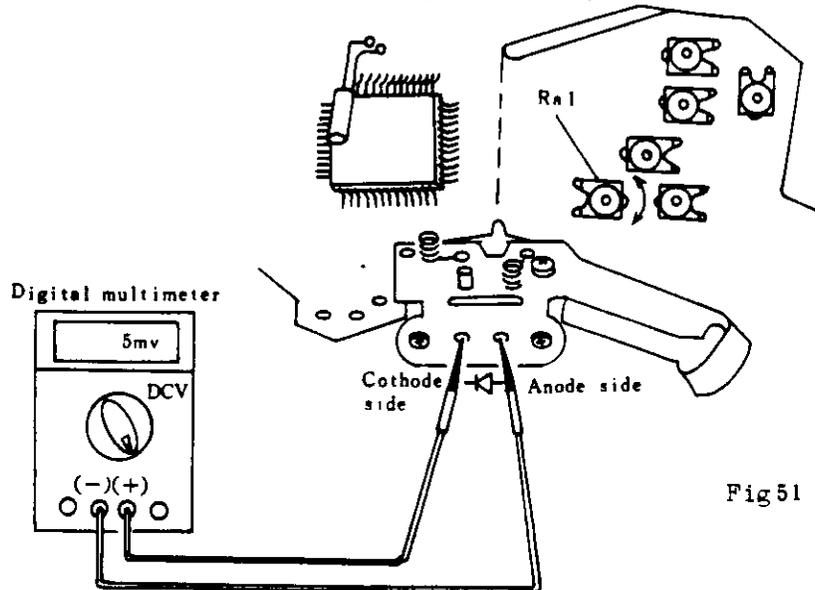

Fig51
- 2 Connect (-) of digital multimeter to Cathode side of SPD-1, (-) of digital multimeter to Anode side of SPD-1 and then read the voltage. See (Fig 51).